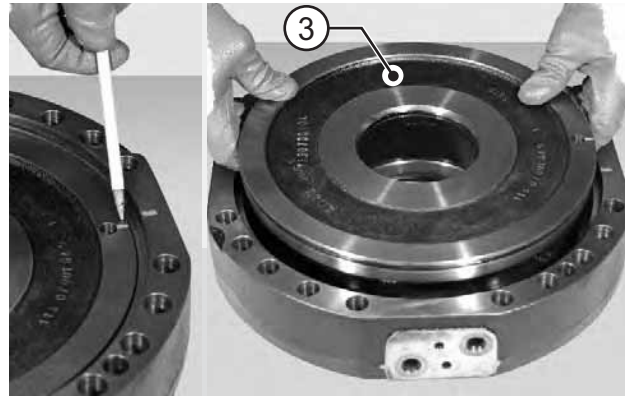

FIGURE 21: Slowly introduce low-pressure compressed air through the connection member for the negative brake (P1), in order to extract the piston (3).
FIGURE 21: Remove upper pivot pin (6) and install the dust ring (8). Fill the seat of the upper pivot pin with NLGI 3 EP grease. Position the pack of shims (7) previously calculated and reinstall the upper pivot pin (6) with screws (5) coated with Loctite 242 to a torque of 130 - 142 N·m using the criss-cross method.